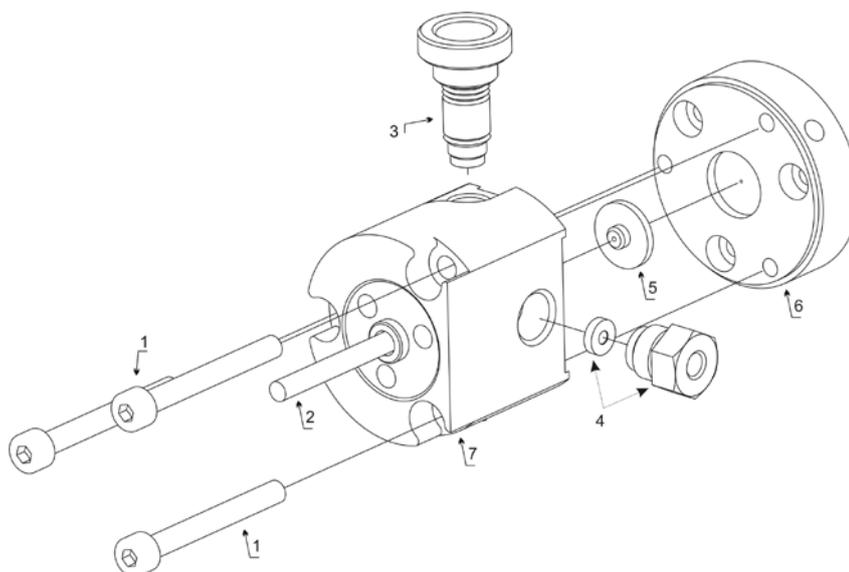

Fig. 61: Outlet unit with micro flow option
5. Remove the installation screws from the outlet unit (→ Fig. 61, no. 1), and then carefully remove the outlet unit (→ Fig. 61, no. 7).
7. Install the L connection (→ Fig. 61, no. 6) to the position of the mixing chamber base so that the capillary connections are in a horizontal position (→ Fig. 62, page 140).
8. Insert the micro flow ring seal (→ Fig. 61, no. 5) into the L connection. If the seal does not adhere to the connection, apply a bit of liquid to wet the seal before insertion.
6. Remove the L connection (→ Fig. 61, no. 6) and the old micro flow ring seal.